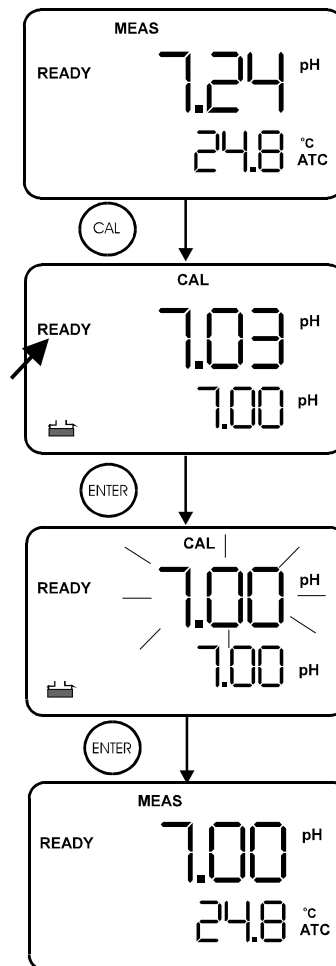

Figure 1: 1st-point calibration
10. If you are performing a one-point calibration, press **CAL/MEAS** key to return to the measurement mode and start taking pH readings (see Figure 1).